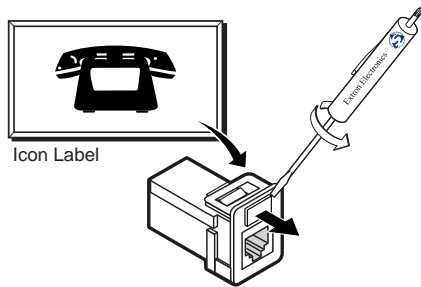

Figure 3-4 — Changing the connector icon
- Snap a replacement bezel in place. If necessary, replace the connector icon by prying the old icon off of the connector plug-in with a Tweezer (figure 3-4) and snapping a new icon in place.